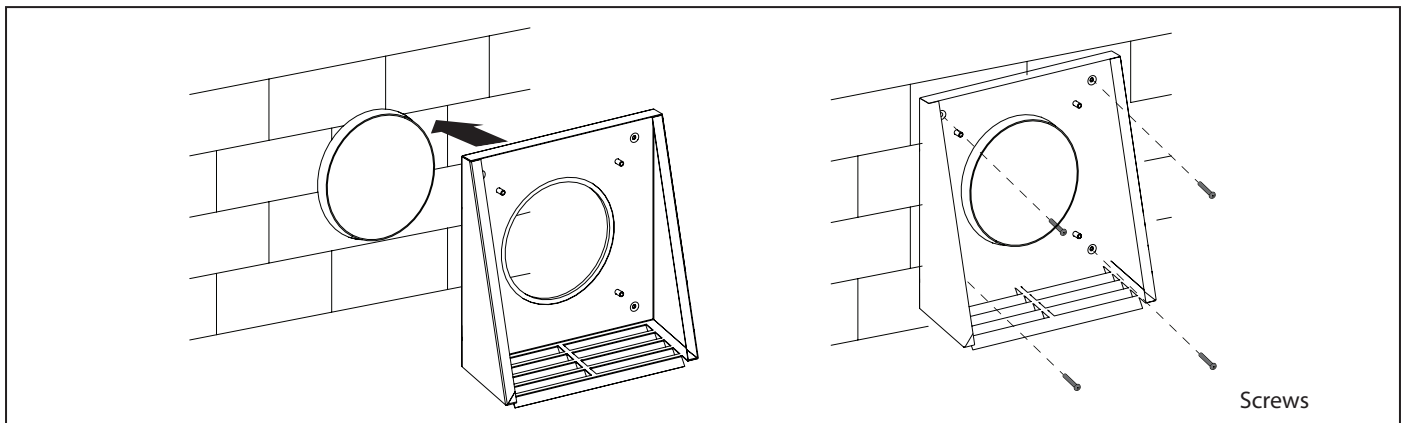

Fig. 14a.
- Fig. 14a - for VENTO Expert A50-1 Pro model. Connect the back part of the ventilation hood with the wall using the 4x40 screws from the delivery set.